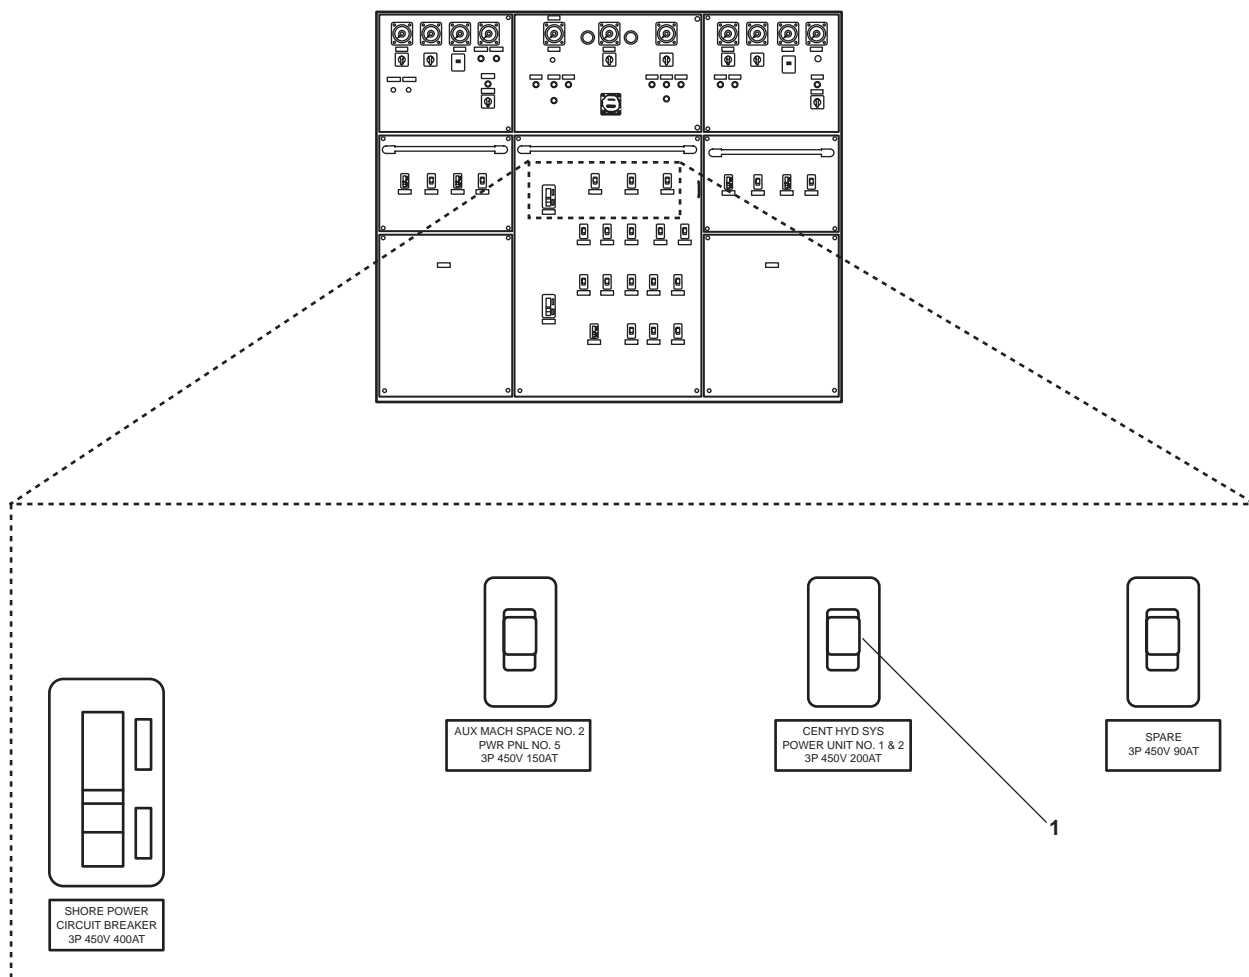

Figure 4. Main Switchboard
4. Set to ON the CENT HYD SYS PWR UNIT NO. 1 & 2 circuit breaker (figure 4, item 1) on the main switch-board.